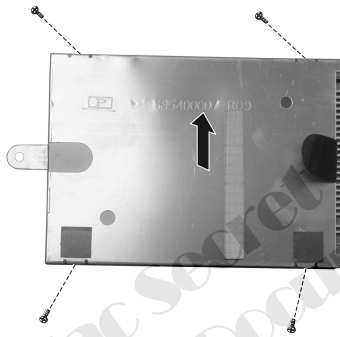

Figure 2-11 Remove hard disk drive
4. Remove the four screws to separate the hard disk drive from the bracket, remove the hard disk drive. (Figure 2-11)